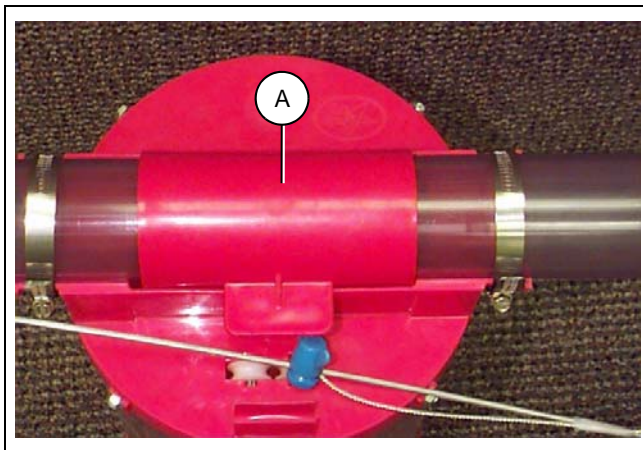
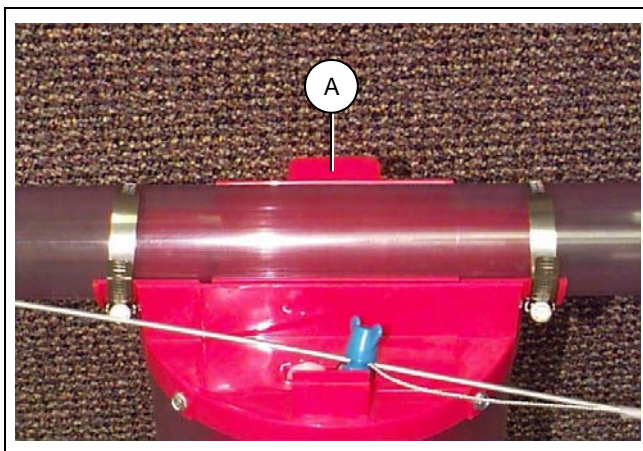

Figure 3H Slide Open to Let Feed Flow
Figure 3I Slide Closed to Cover Outlet Hole
1. If not already done, slide hose clamps over tubing and *(See Laying Out the Tubing Section on Page 8)* take apart each hose clamp. Place it over the tubing and put it back together loosely. *(See Figure 3H and Figure 3I.)*